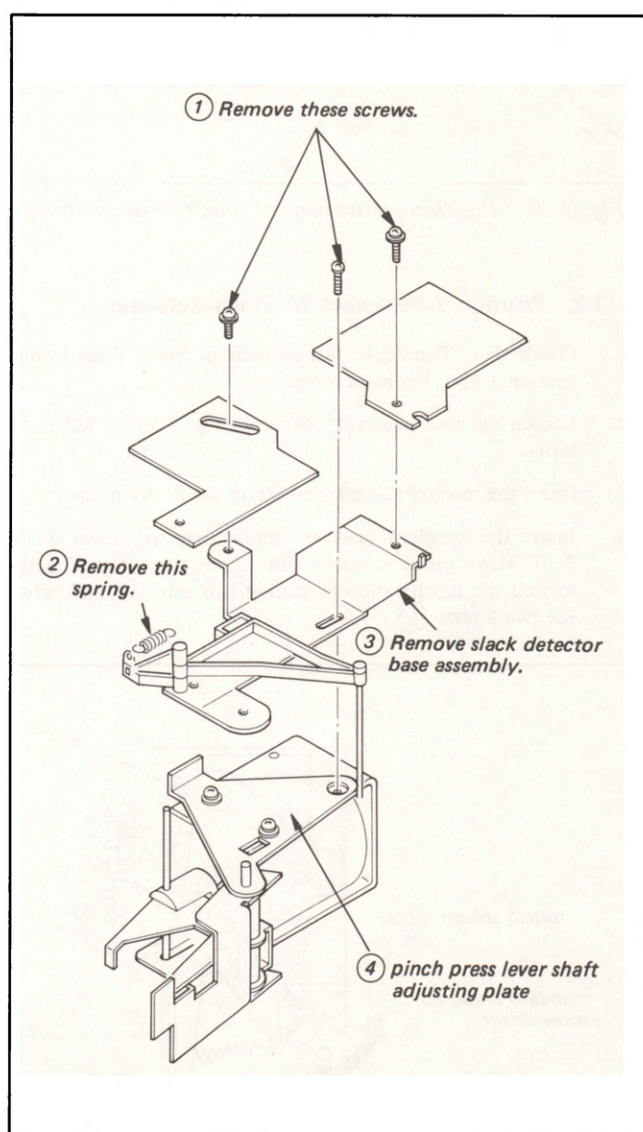

Fig. 3-28. Disassembly
2. Perform Steps ① to ③ shown in Fig. 3-28 so as to set up the state in which the screw of pinch press lever shaft adjusting plate ④ can be loosened.
6. Reverse Steps (1) to (3) shown in Fig. 3-28.